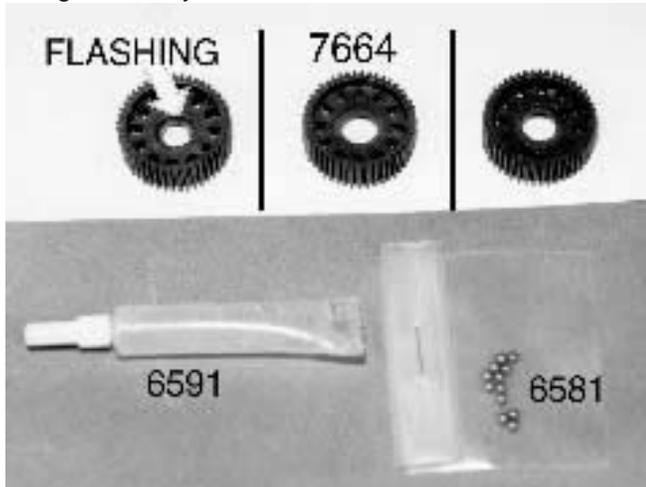

Fig. 43
□ **Fig. 43 (1)** Open the Assoc. transmission bag; inside you will find bags marked A, B, C, D, E & F. You will also find a gear cover bag, the motor plate and a couple of small tubes of lube. **(2)** Go ahead and locate bag A, the diff assembly. **(3)** From bag A you will want to remove the #7664 diff gear and the small bag containing the twelve #6581 3/32" carbide diff balls (these are the larger of the two ball sizes). These carbide balls are the best available. They will outlast the diff drive rings at least ten times (if the diff is kept clean and lubed).